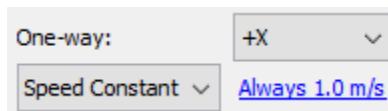

Figure 65. Changing a stair into an escalator
4. Click the **Speed Modifier** drop-down, and choose **Speed Constant** as shown in Figure 65.